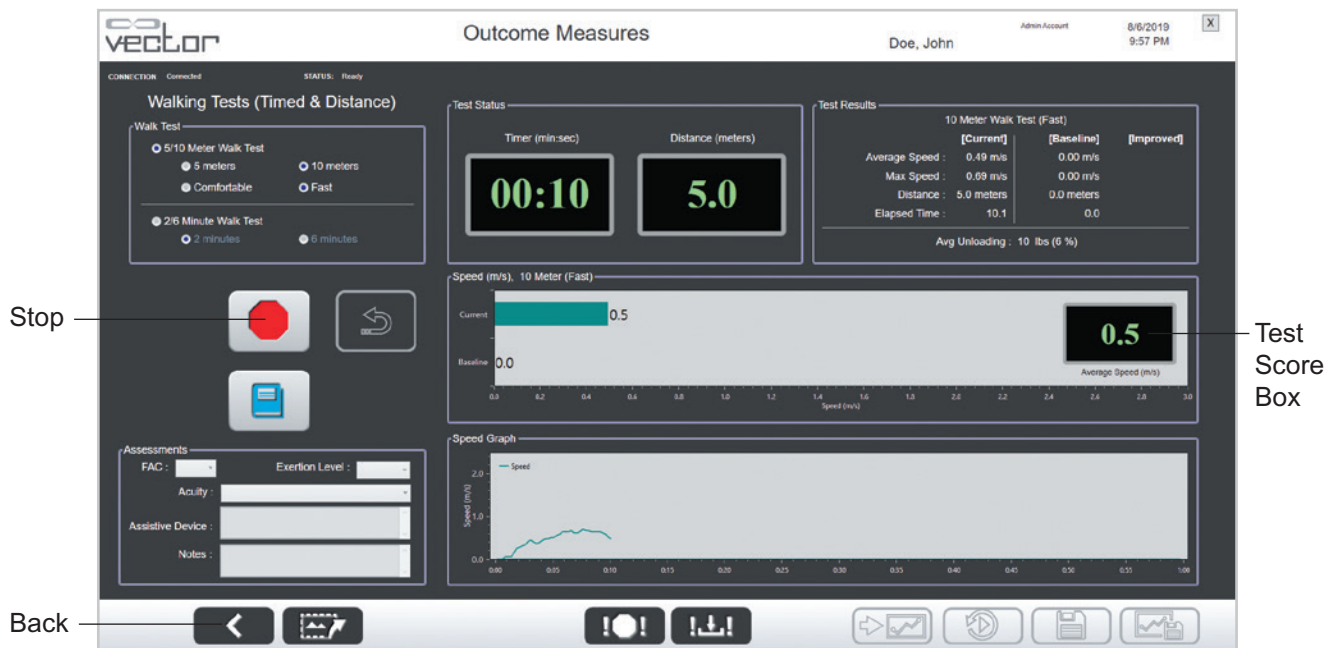

Figure 7-7: Outcome Measures Walking Test Screen (Active Test)
Note: Press the Stop button to cancel the test. See Figure 7-7. The test will automatically stop at the selected distance or time.
1. On the active Outcome Measures test screen press the Back button. See Figure 7-7.